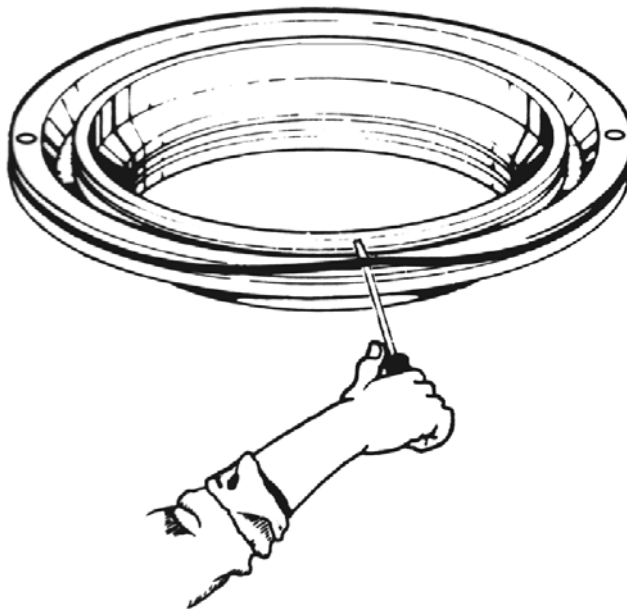

Figure 4-23. Removing Adapter Ring Seals
3. Remove the adapter ring top seal C (9), the adapter ring OD seal #5 (8), and the adapter ring upper ID seal B (11) and lower ID seal #4 (12 or 13) with a flat, blunt instrument such as a screwdriver (see Figure 4-23).